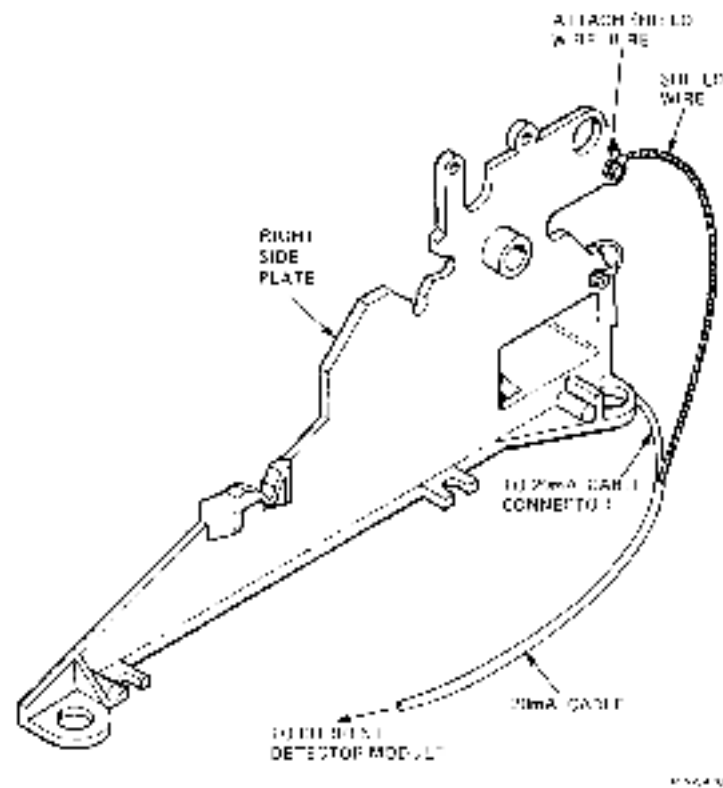

Figure 3-20 Attaching Shield Wire to Side Plate
9. Secure the shield wire on the 20 mA cable to the right side plate using existing hardware (Figure 3-20).